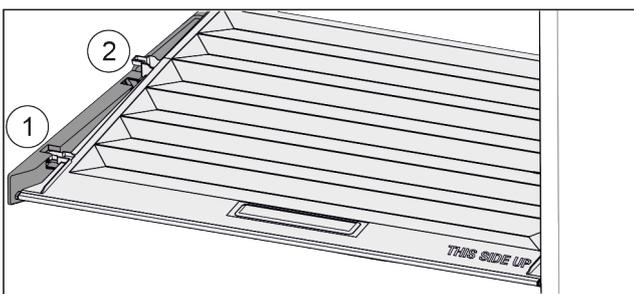

Fig. 24
- ▶ Pull the lid up at the front to the opening in the retaining parts Fig. 24 (1).
- ▶ Lift from the back and pull it up and out Fig. 24 (2).